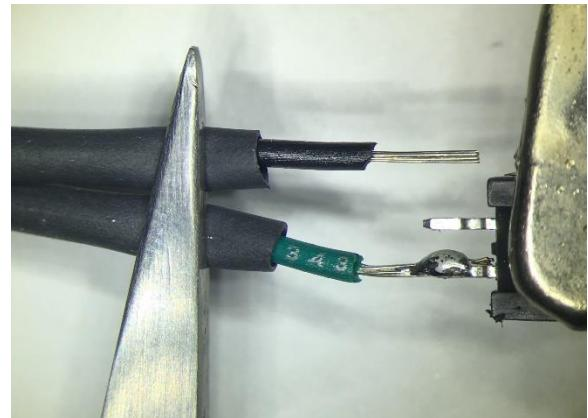

Figure 59 Soldering wires to 2-pin header
- See Figure 59 for an illustration of this process